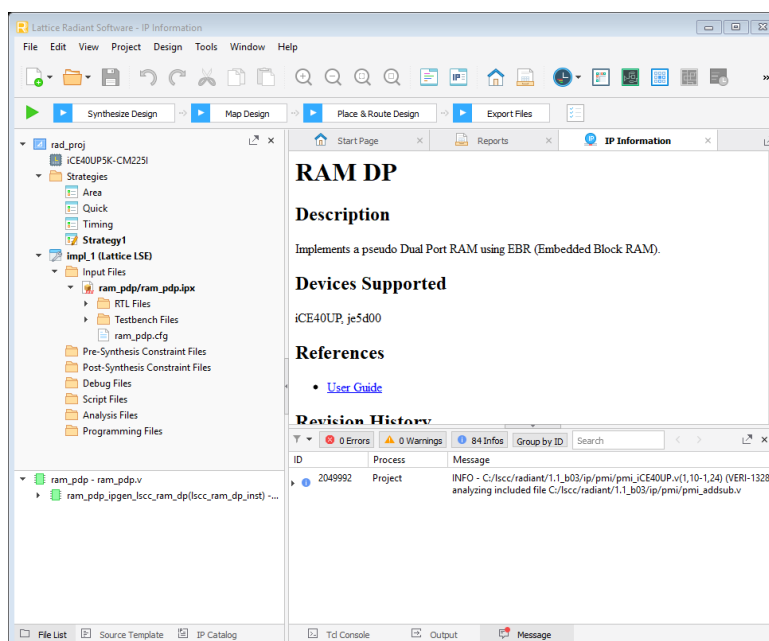

Figure 6.1. Project with an Instance of Pseudo Dual Port Memory
1. Create a new IP instance (refer to IP Generation section on how to generate an IP in a project). For this example, generate a Pseudo Dual-Port Memory on default settings, with an IP name of **ram_dist**. (see Figure 6.1 for more information regarding the IP).